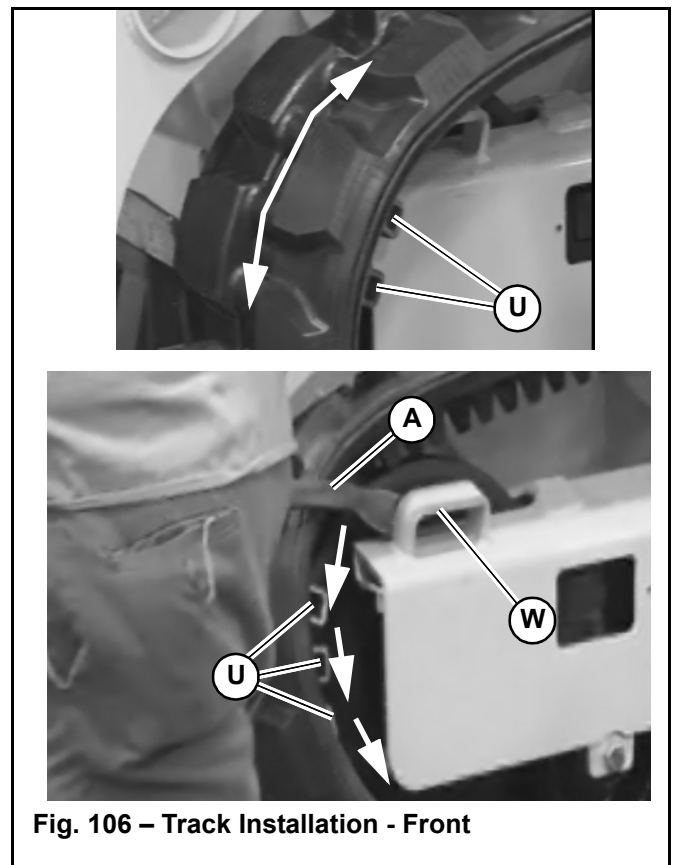

Fig. 106 – Track Installation - Front
10. Using a pry bar (A, Fig. 106) and wedging blocks (U), pull/guide the new track at (R) over the front idler wheel, and under the bottom rollers. Carefully direct a helper to start the machine and direct the helper to operate the track drive slowly forward/back to work the track over the front idler wheel.